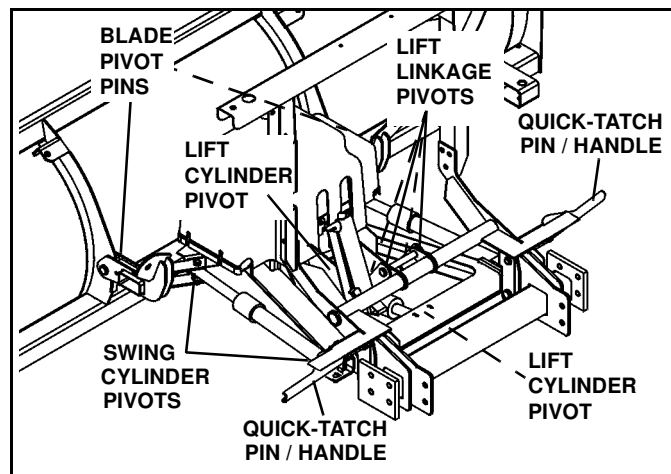

Figure 2-1
3. Apply a small amount of light oil to: Quick-tatch pin and handle assemblies, pivot pins between the blade and swing frame, and pivot pins at lift, swing and wing (26R series only) cylinders. Also lubricate jackstand pins. (See Figure 2-1).